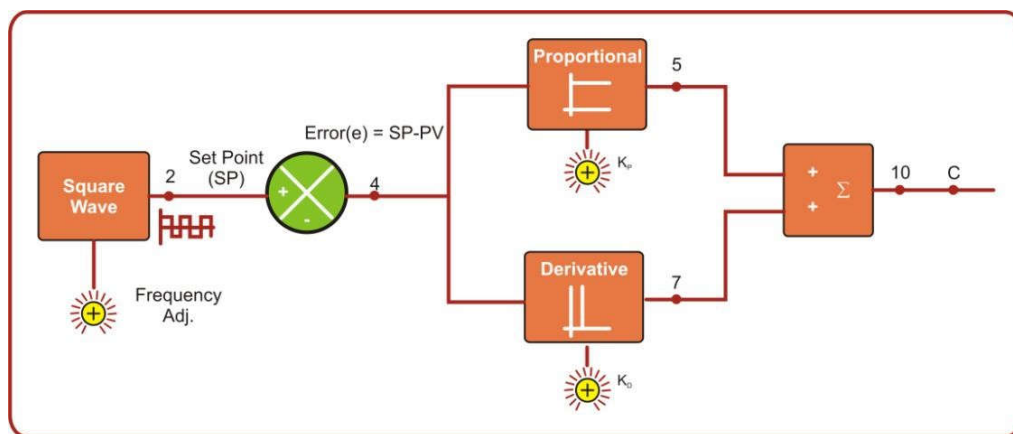
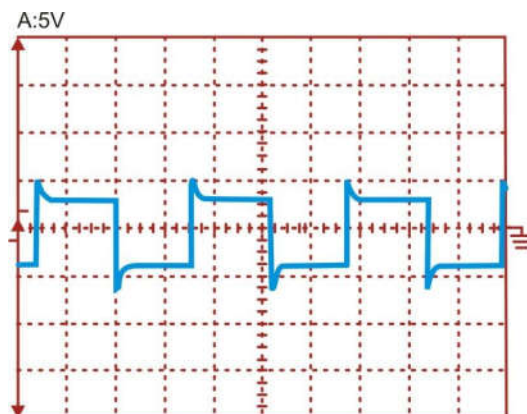

Figure 14
Figure 15
**Objective:** Study of Proportional + Derivative (PD)
Connections for Proportional + Derivative (PD) controller are as shown in the figure 14.
3. Apply square wave to the set point (SP).
4. Check the output of summer block  $\Sigma$  of summing block on CRO that will look like as shown in figure 15.